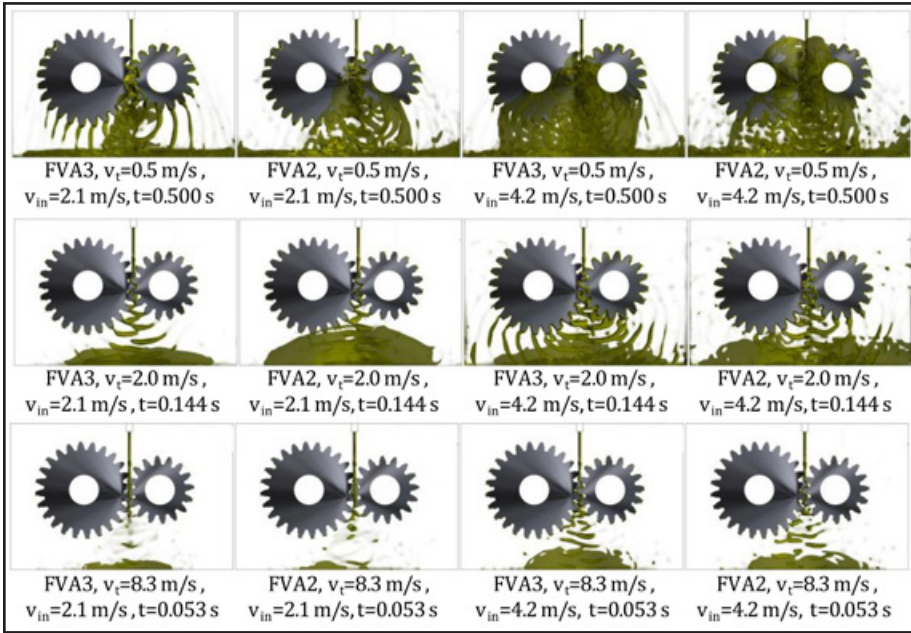
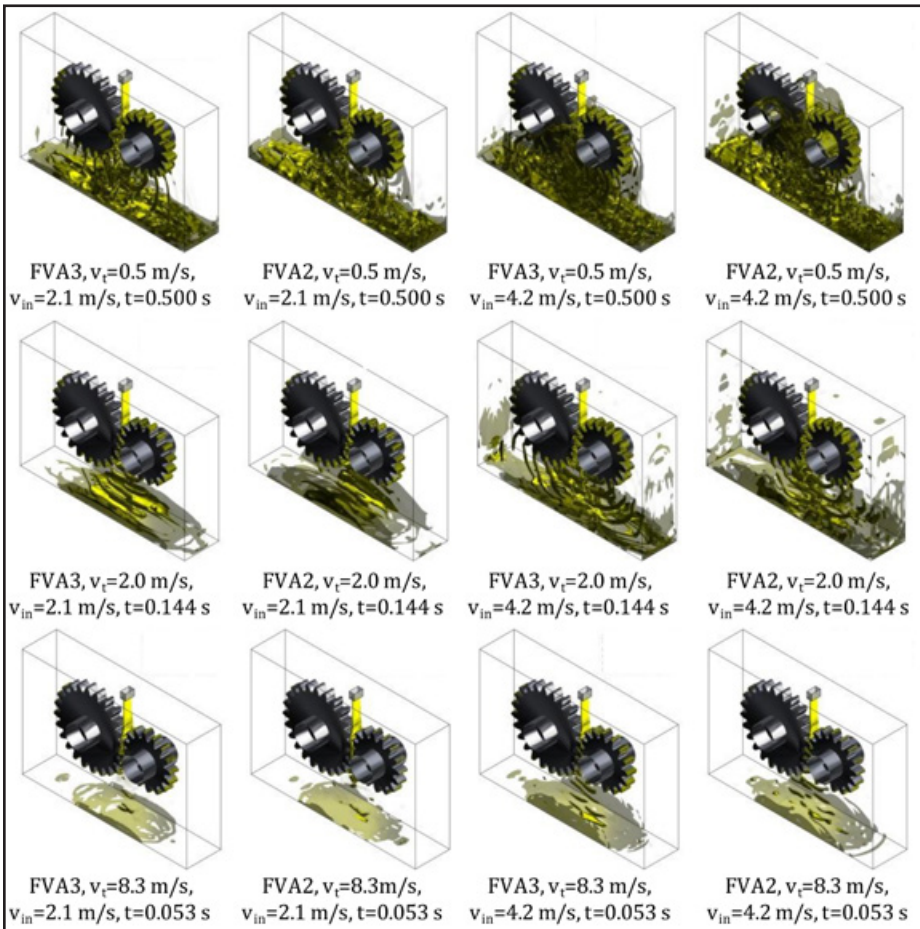

Figure 3 Simulated oil distributions after one rotation of the pinion (front view).
Figure 4 Simulated oil distributions after one rotation of the pinion (isometric view).
**Oil distribution.** Figures 3 and 4 show the simulated oil distributions in front and isometric views, respectively. Thereby, the current oil volume fraction obtained from the CFD simulation is illustrated. All results correspond to a time, when one pinion rotation after the first oil contact has finished. This already results in an almost quasi-stationary oil distribution and loss torque.
The left and right two columns of Figure 3 and Figure 4 correspond to the oil injection speeds  $v_{in}$  of 2.1 m/s and 4.2 m/s, respectively, whereas the three rows relate to the circumferential speeds  $v_t$  of 0.5 m/s, 2.0 m/s and 8.3 m/s. The influence of the oil injection speed  $v_{in}$  and the circumferential speed  $v_t$  is superordinate compared to the influence of the oil viscosity (FVA3 and FVA2), which can be observed by comparing the first and second and the third and fourth columns, respectively.